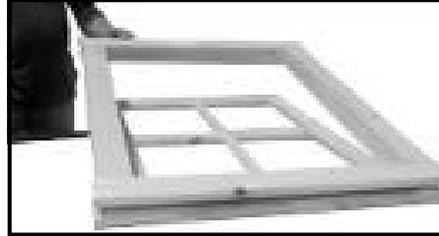

Fig A13
22. Place the window into the aperture (fig A13) **ensure that part WD** (FIG A13) is against the hinges (TOP HUNG)**or** against the **WC** (side hung) .